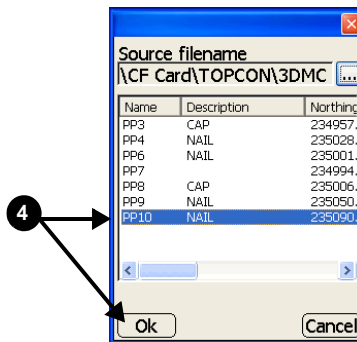

Figure 3-21. Select Point to Import – Control Point Example
4. Once the points/control points in the selected file display, select the desired point(s) to import. Press **Ok** to import (Figure 3-21).